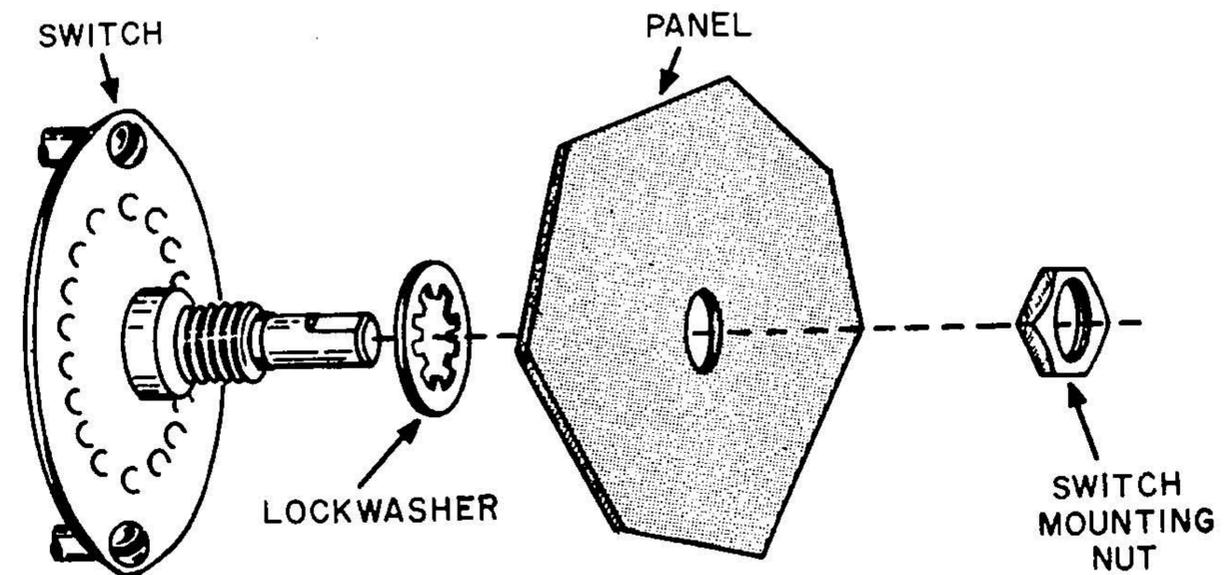
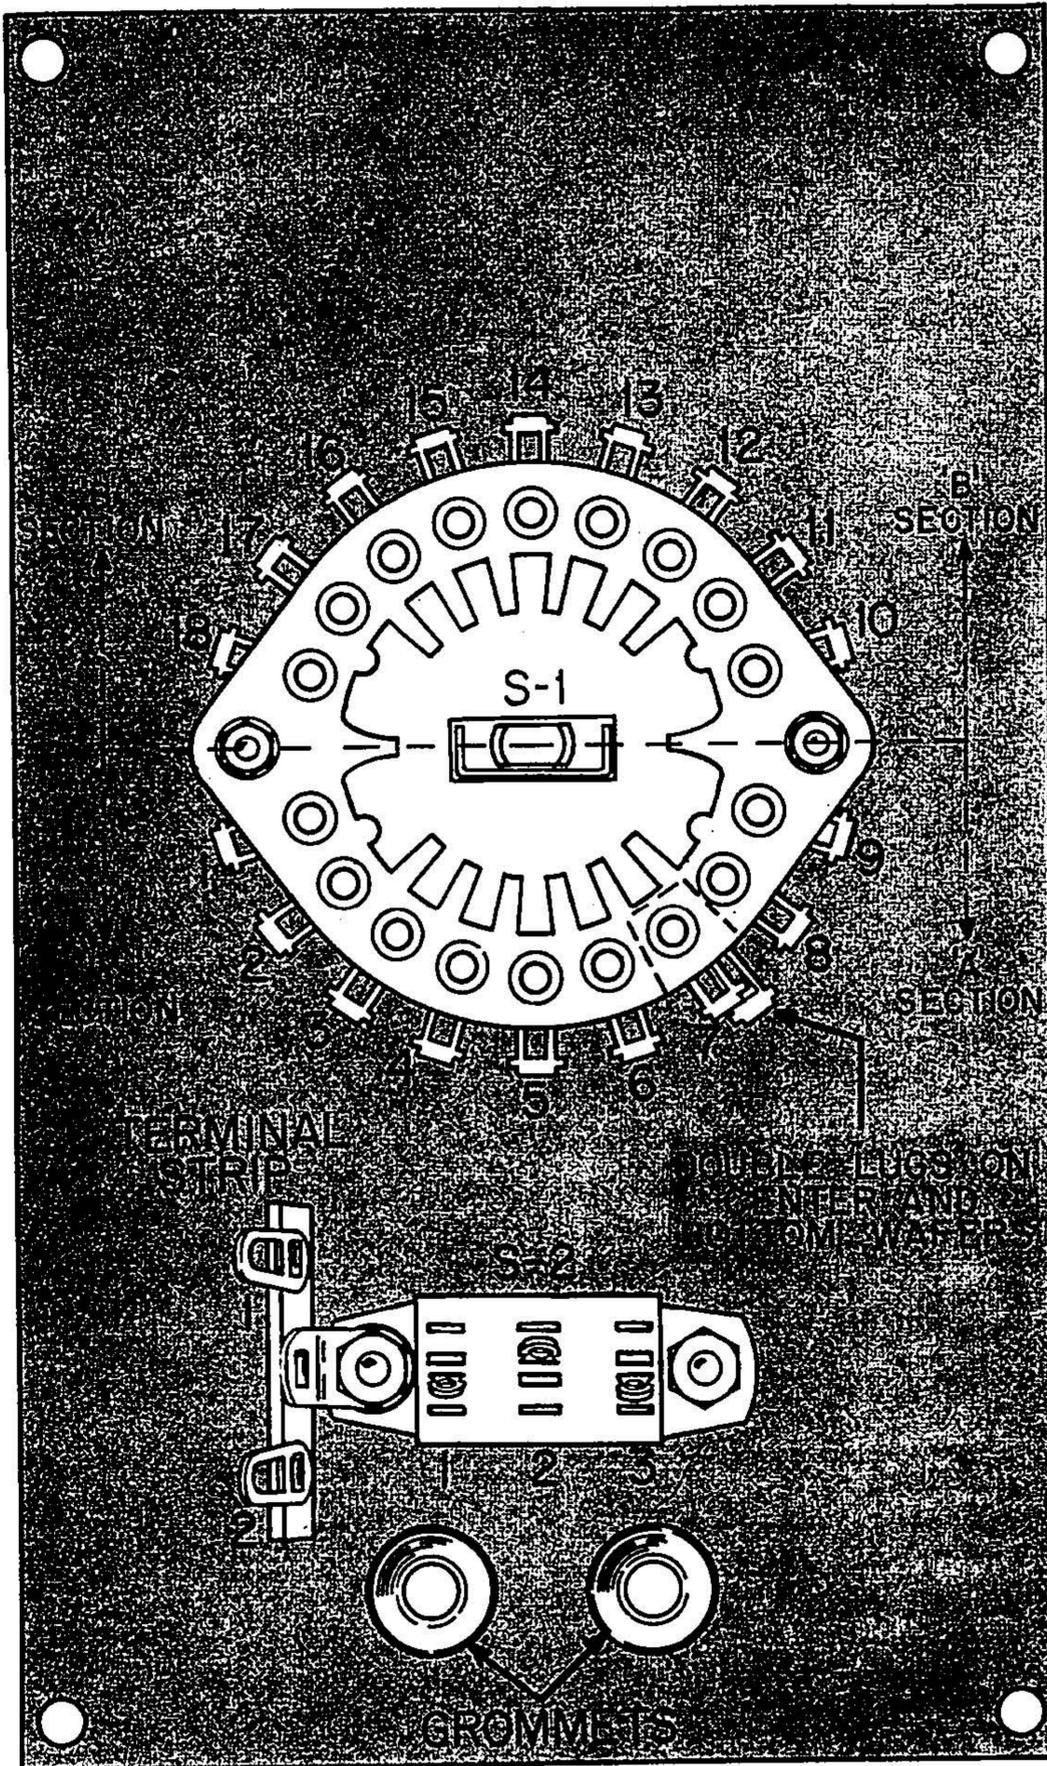

FIGURE 3. HOW TO MOUNT THE SWITCH
FIGURE 4. MOUNTING THE PARTS
SEE FIGURE 4.
- Mount S-1, the rotary switch, with a large lockwasher and nut. See Figure 3. Note: The two wafers nearer the shaft each have a pair of terminals on one side. This side of S-1 is designated as section "A", and must be positioned as shown in Figure 4.